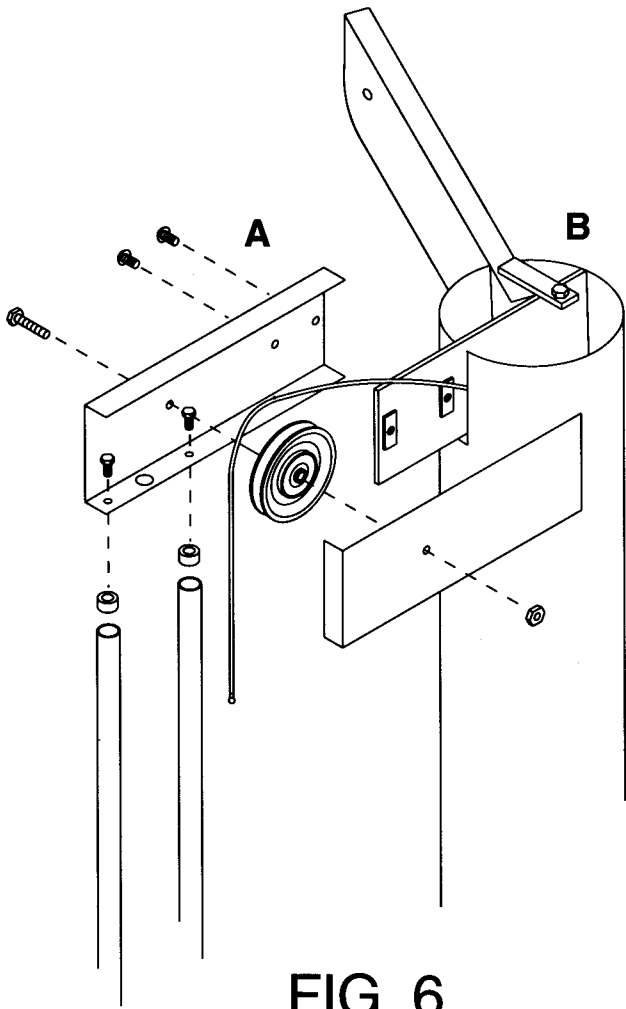

FIG. 6
14. Attach the upper stack support (A) to the butterfly/high pulley column (B) (3/8-16 x 1/2 hex screw, Qty: 2). Do not route the cable yet. (Fig. 6)